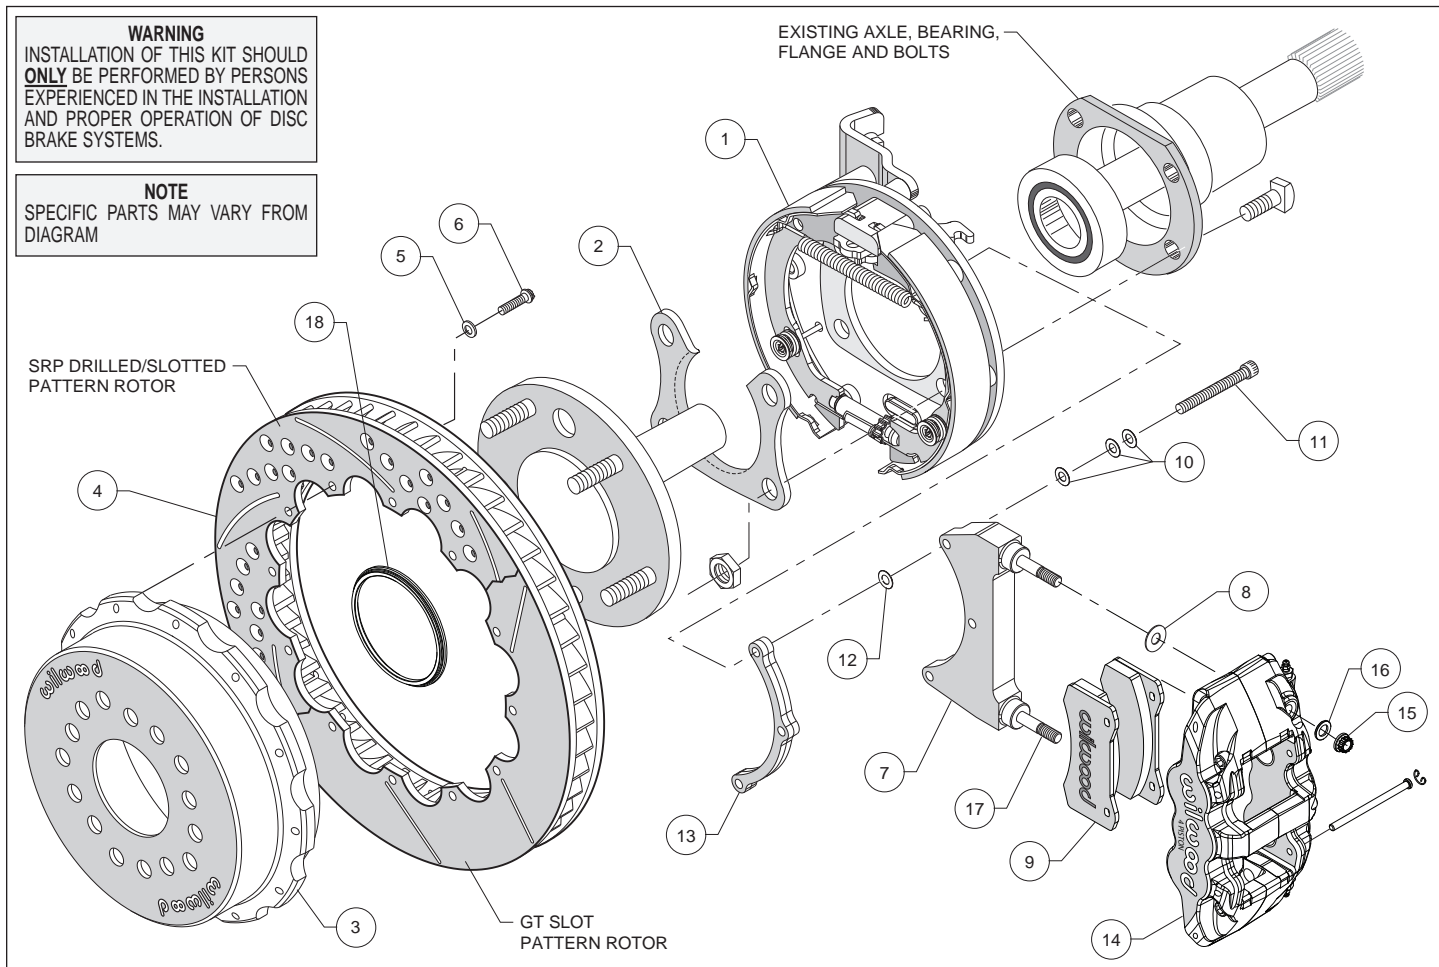

Figure 1. Typical Installation Configuration
- Orient the bracket assembly (1) as shown in Figure 1, and slide it onto the axle flange. Ensure that the bracket assembly backing plate fits flush against the housing flange. Insert the axle shaft into the axle housing.
- Install the bearing retainer (2) with the opening pointing upward and the lip facing inward (toward the bearing), as shown in Figures 1 and 4. Secure using the Original Equipment Manufacturer (OEM) bolts and nuts, Figure 1. Apply red *Loctite*® 271 to the OEM bolt threads and torque to OEM specifications
- Slide the rotor registration adapter (18) onto the axle register on the axle flange with the smaller O.D. facing toward the rotor/hat (3). Align the correct hole pattern in the hat with the stud pattern on the axle flange. **NOTE:** Some OEM and aftermarket axles come with stud sizes larger than 0.50" diameter. Verify stud size and have a qualified machine shop drill the hats to the correct size, if necessary. Slide the hat/rotor assembly (3 and 4) over the wheel studs covering the bracket kit assembly (1) and against the axle flange face. Check to be sure the hat seats squarely against the hub. Install three lug nuts (finger tighten) to keep the rotor/hat assembly in place while continuing with the installation.
- NOTE:** Please reference the caution statement at the beginning of the assembly instructions. The caliper mounting bracket assembly (7) should be installed first with clean, dry threads on the mounting bolts (11). Install the bracket from the rear side of the bracket kit assembly (1) by sliding bolt (11) through three flat washers (10), bracket (7), shim washer (12) and finally through the spacer (13), see Figure 1. **NOTE:** End of bolt should not exceed inside face of insert. The bracket must tighten squarely against the back side of the bracket kit assembly (1). Inspect for interference from casting irregularities, machining ridges, burrs, etc. Use one thin shim (12) between the bracket (7) and spacer (13) during initial trial fitting.
- Lubricate caliper mounting studs and nuts with lightweight oil. Install one shim (8) over each pre-installed stud (17) on the radial mount bracket (7). Slide the caliper (14) in place over the studs and rotor, then install the washer (16) and lock nut (15) to hold the caliper in place. The caliper bleed screws should be pointing up. Snug the lock nuts (15) and check that the rotor (4) is centered in the caliper (14). Add or subtract .015" shims (12) as necessary between the caliper mounting bracket (7) and the spacer (13) to center the caliper (14).
- Remove the two pad retaining pins from the caliper (14) by carefully popping out the pin retaining clips and sliding out the pins. Insert the brake pads (9) into the caliper from the bottom, Figure 1. With the friction material facing the rotor, secure the brake pads in place with the pad retaining pins and clips. Reinstall the caliper onto the caliper mounting bracket and temporarily tighten the lock nuts. Check that the top of the brake pad is flush with the outside diameter of the rotor. If not, adjust by adding or subtracting shims (8) between the caliper and the bracket.
- Adjust the parking brake shoes outward (using a drum shoe adjustment tool available at your local auto parts store) while spinning the hat (3) until a slight drag is felt against the hat/drum. Remove the lug nuts that were holding the hat/rotor in place. Install the wheel and lug nuts. Check to see that the wheel rotates freely without interference.
- Once all clearances have been checked, remove the wheel, caliper, hat/rotor from the bracket kit assembly (1). Secure the caliper mounting bracket (7) to the bracket kit assembly (1) using red *Loctite*® 271. Torque bolts (11) to 180 in-lb. Reinstall the hat/rotor assembly and again use lug nuts to hold it in place. Reinstall the caliper, torque the caliper nuts (15) to 47 ft-lb.
- NOTE:** Clevis and cable kits which attach to the parking brake assembly are not included in the Wilwood parking brake kit. Wilwood offers a generic style parking brake cable kit, P/N 330-9371 for this application which can be ordered separately from your local Wilwood dealer or by calling Wilwood customer service at (805) 388-1188.